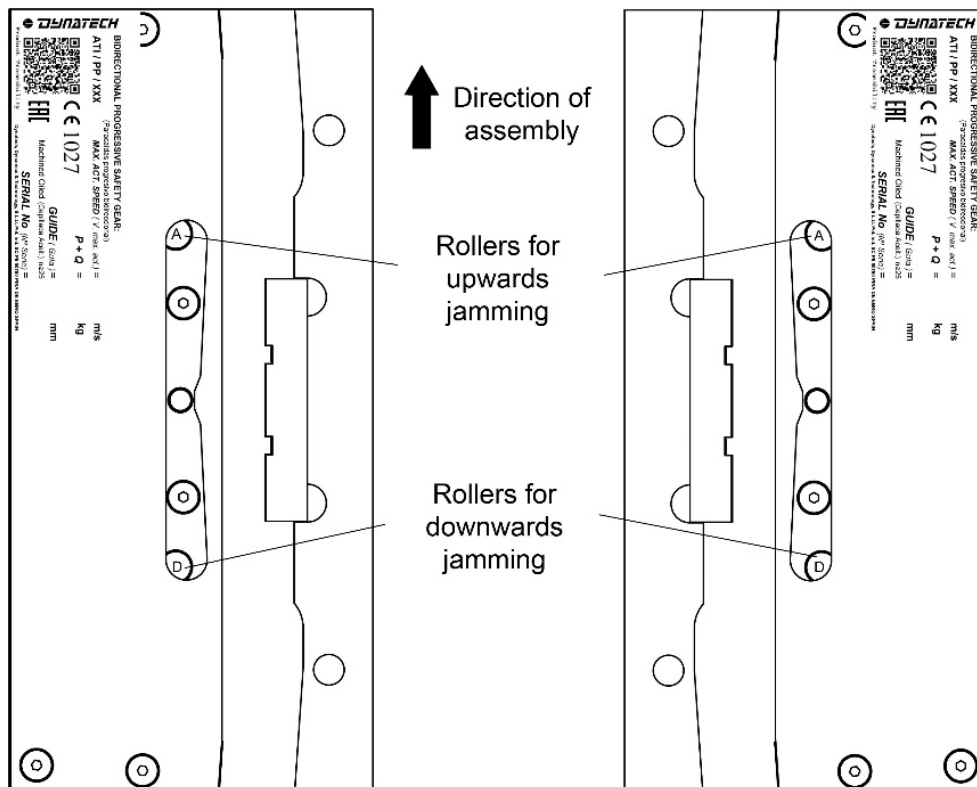

Figure 4: Direction of assembly
- The safety gears should be assembled in the position displayed in Figure 4